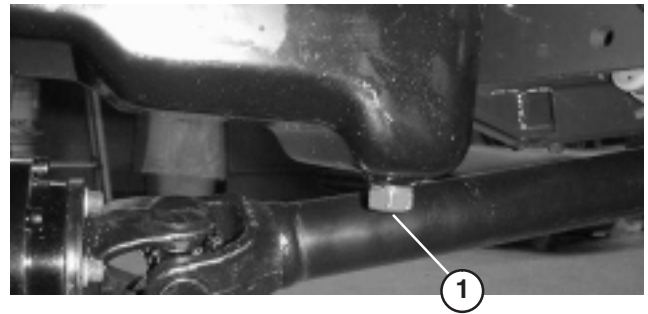

Figure 43
2. Open the hood. Set drain pan under the oil pan and in line with drain plug (Fig. 43).